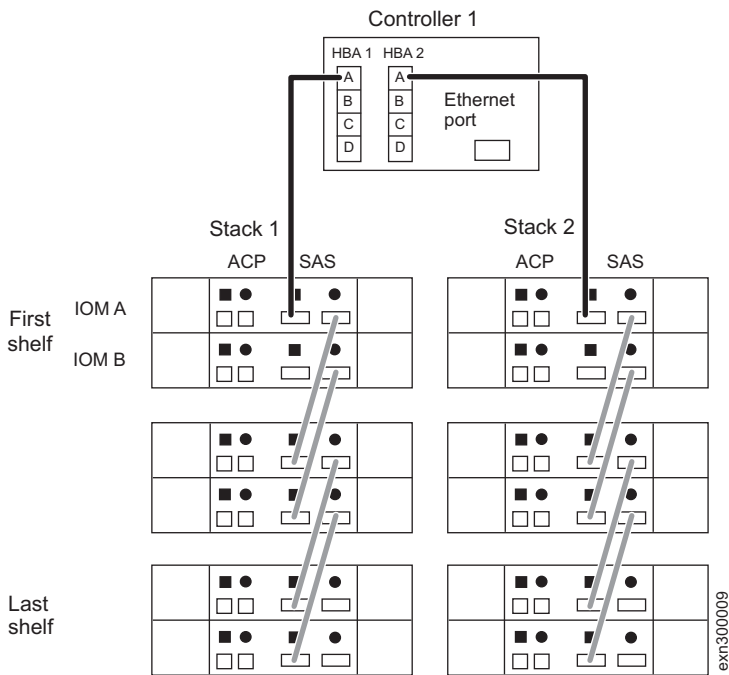

Figure 10. Cable the first shelf connections
2. Cable the first shelf connections as shown in Figure 10.